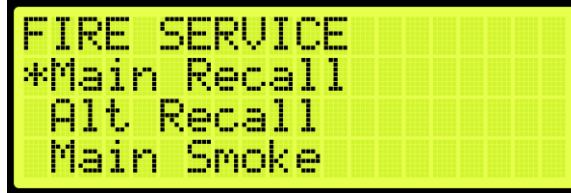

Figure 512: FIRE SERVICE Menu – Main Recall
2. From the FIRE SERVICE menu, scroll and select Main Recall (See Figure 512).